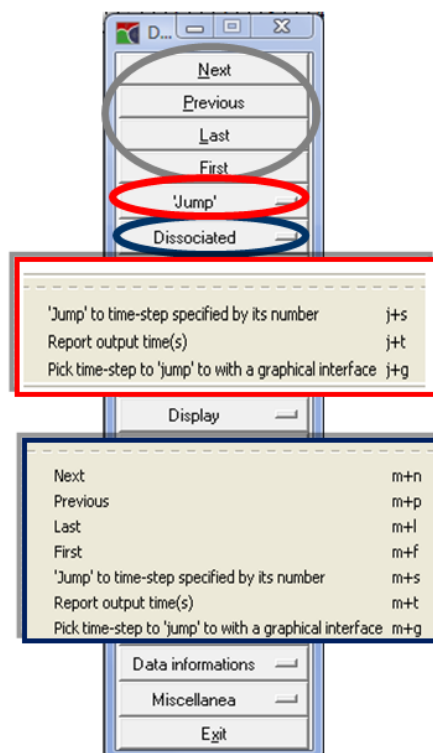

Figure 4.4.
The graphical visualisation of the result output file can be navigated via the control panel (see Figure 4.4). Here, e.g. the colour scale may be adjusted, an animation may be created or a virtual EDX may be displayed. The options to navigate, visualize, analyze, animate and save the results will be explained briefly in the next sections. **General Hints:** If you click on the dashed line of a sub-menu (see red rectangle in Fig.4.4.), the sub-menu will open and remain available to facilitate work. Most of the functions/actions can be “undone” by re-selecting the corresponding option.
- The option *jump* has the following features (see Fig 4.4):